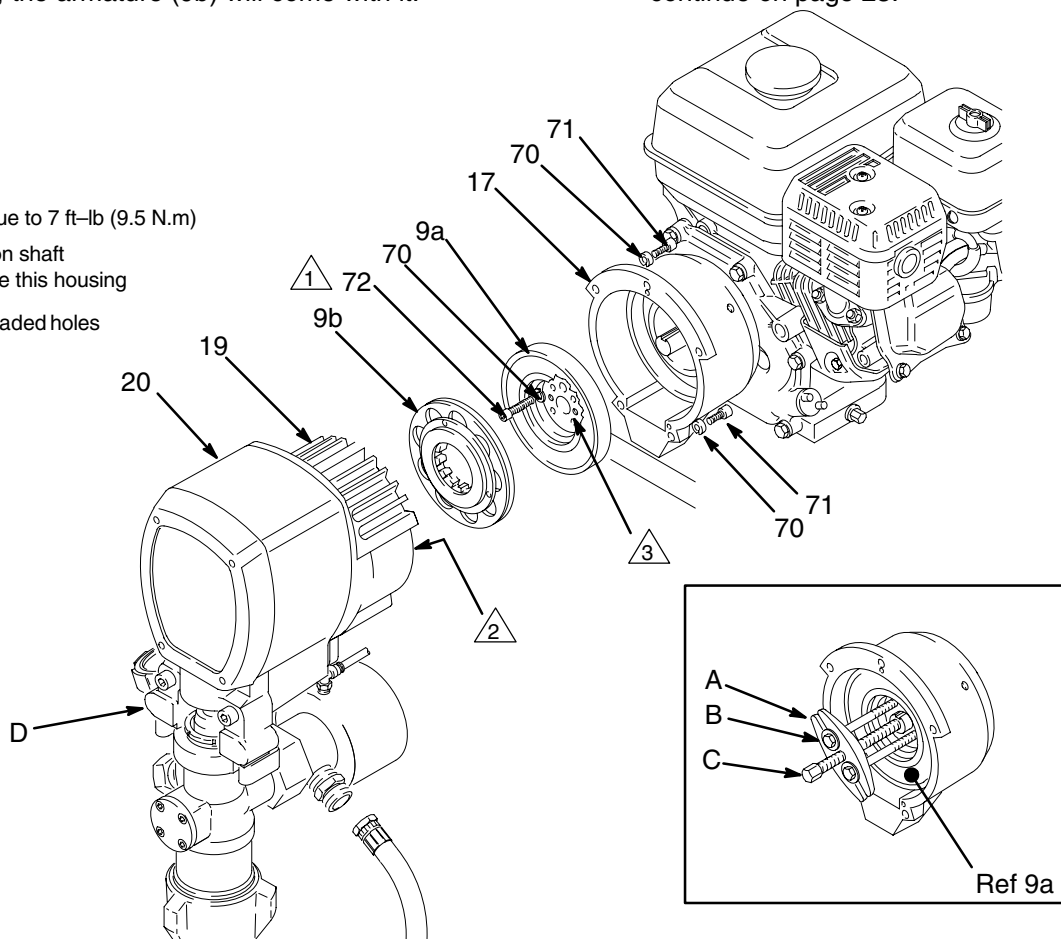

Fig. 21
2. Disconnect the hose from the displacement pump. Disconnect the cord set (62) from the pressure control.
3. Remove the bottom two screws (3) from the clutch housing (17) and then remove the remaining three screws (3).
4. Tap lightly on the back of the bearing housing (23) with a plastic mallet to loosen the assembly (D) from the clutch housing (17). Pull the assembly away; the armature (9b) will come with it.
- a. Remove the capscrews (4) and lockwashers (2). Install two of the screws in the threaded holes in the rotor (9a). Alternately tighten the screws until the rotor comes off. See Fig. 21.
- b. Use a standard steering wheel puller (A) with two 1/4-28 x 3 or 4 in. long screws (B). Replace the short screws of the steering wheel puller with the longer screws. Turn the screws (B) into the threaded holes of the rotor (9a). Tighten the capscrew (C) of the tool until the rotor comes off. See the Detail in Fig. 21.